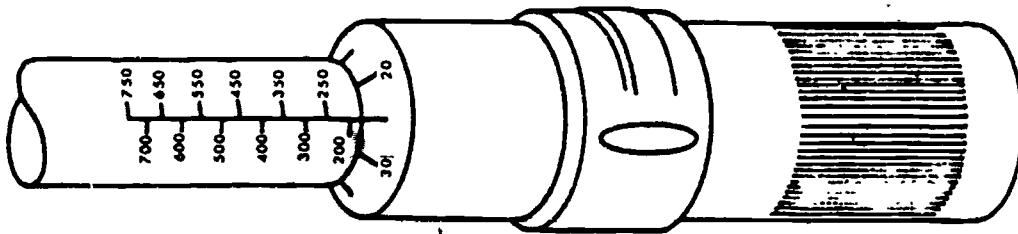

Figure 3.
13. Set the grip to exactly 175 inch pounds, (figure 3). After you have done this, check figure 3 to see if your torque setting is exactly the same. 150 on the shaft scale plus 25 on the grip index = 175 inch pounds.